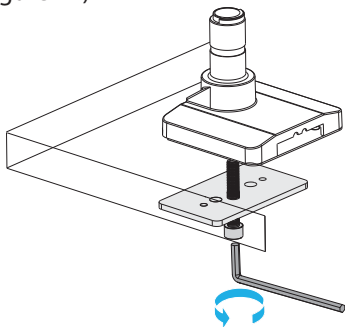

Figure 11
- Insert the **Grommet Screw** through the **Grommet Plate**, **Desk Grommet Hole**, and into the **Grommet Base Assembly**. Use the **6mm Hex Key** to tighten the **Grommet Screw**. (Figure 11)